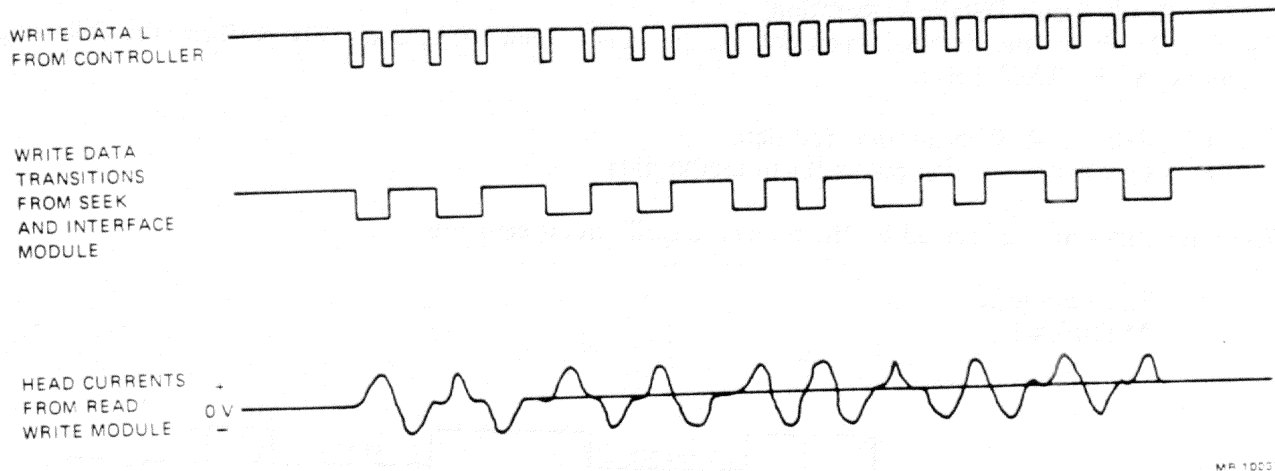

Figure 6-24 Write Data to Head Current Conversion
6.3.9.4 Differential Write Switch Detail – The differential write switch converts the write data from the R/W interface circuits to write currents for the R/W heads. Figure 6-24 shows the conversion of WRITE DATA from the controller (Paragraph 6.3.8.1) to write currents for the heads. For this conversion, the differential write switch requires a write current and a reference voltage.